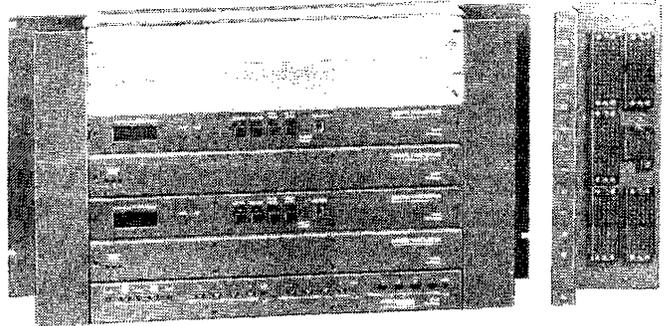

Fig. 11 - DMS-10 Interface System
4.14 Digital Announcers may also be used in conjunction with telephone switching equipment to provide electronic announcement capabilities. The DMS-10 Digital Announcer System Interface (figure 11) provides up to twelve individual messages in a plug compatible equipment module. This system fits into the space normally occupied by analog message announcement equipment. A quick-
4.14 Digital Announcers may also be used in conjunction with telephone switching equipment to provide electronic announcement capabilities. The DMS-10 Digital Announcer System Interface (figure 11) provides up to twelve individual messages in a plug compatible equipment module. This system fits into the space normally occupied by analog message announcement equipment. A quick-release rack mount holds the interface and up to three Digital Announcers.